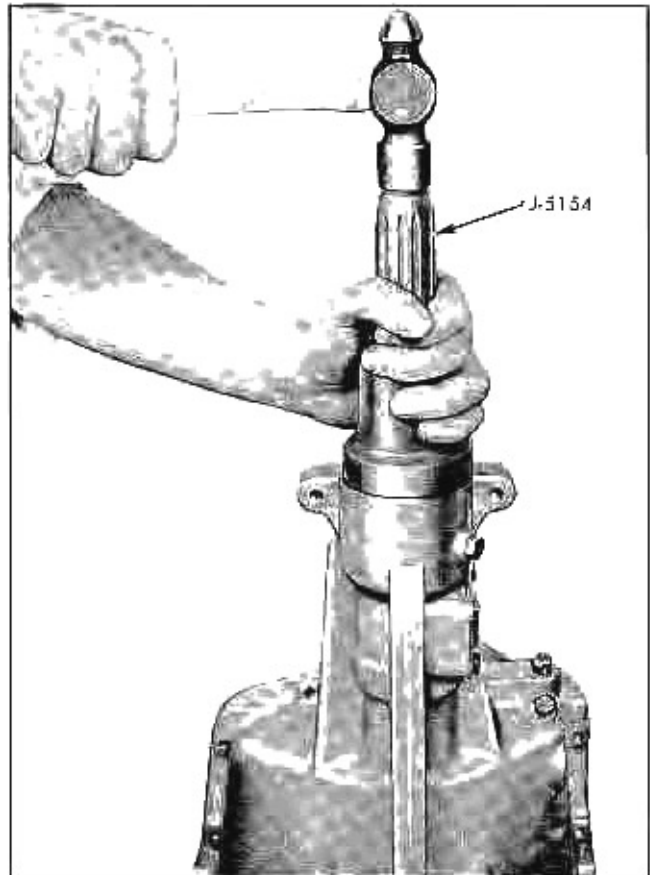

Fig. 118 Installing Rear Seal
6. If rear seal was removed, install new rear seal, using tool J-5154 (Fig. 118).